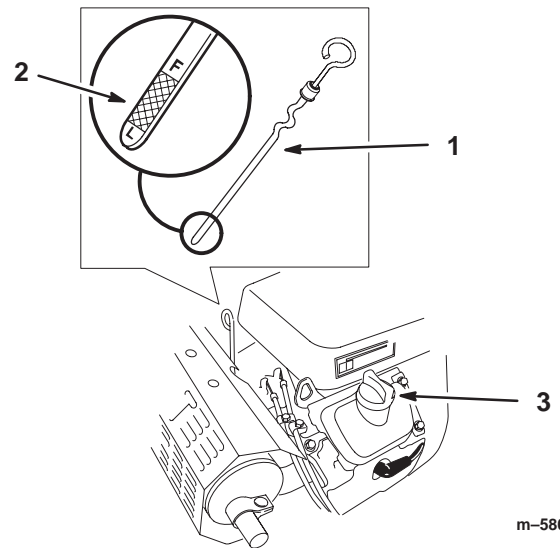

Figure 41
3. Clean around the oil dipstick (Fig. 41) so dirt cannot fall into engine.
4. Pull the oil dipstick and wipe the metal end clean (Fig. 41).
5. Slide the oil dipstick fully into the engine. Pull the dipstick out and look at the metal end (Fig. 41). If oil level is low, slowly pour only enough oil into the filler tube to raise the level to the full mark.
4. Clean around the oil dipstick (Fig. 41) so dirt cannot fall into engine.
9. Slowly pour approximately 80% of the specified oil into the filler cap (Fig. 41). Refer to Servicing the Engine Oil, page 33.